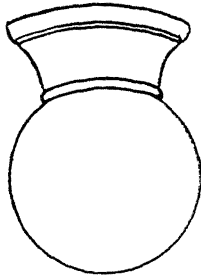

Fig. 5
*Porch.*—An enclosing glass globe as shown in illustration on page 8 (see Fig. 5), with a 40- to 60-watt bulb, provides enough light on the